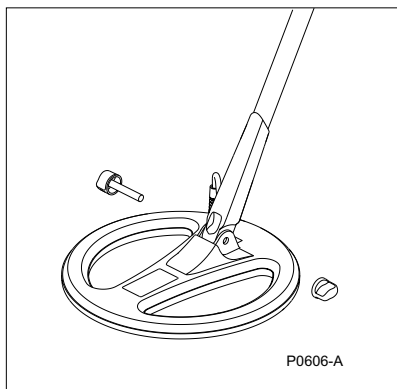

Figure 2.3 Securing yoke to search coil
- STEP 5** (Figure 2.3) Insert yoke bolt through the search coil's yoke bracket and the coil yoke. Fasten with the yoke nut provided, being careful not to damage the thread of the nut by over-tightening. This may need to be loosened to adjust the coil to a comfortable detecting angle.